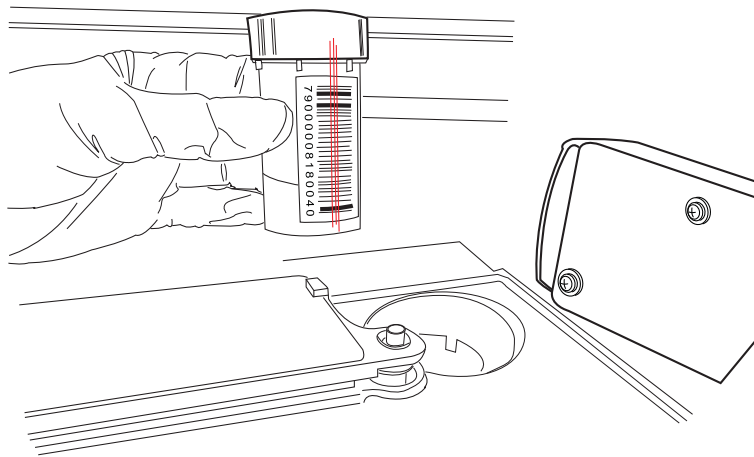

Figure 4-27 Scan a Sample ID Using the System Barcode Scanner
3. Hold the vial in front of the vial barcode scanner as shown in Figure 4-27. You have 30 seconds to position the vial so that the scanner reads it. If the barcode cannot be read, enter the ID using the keyboard interface.